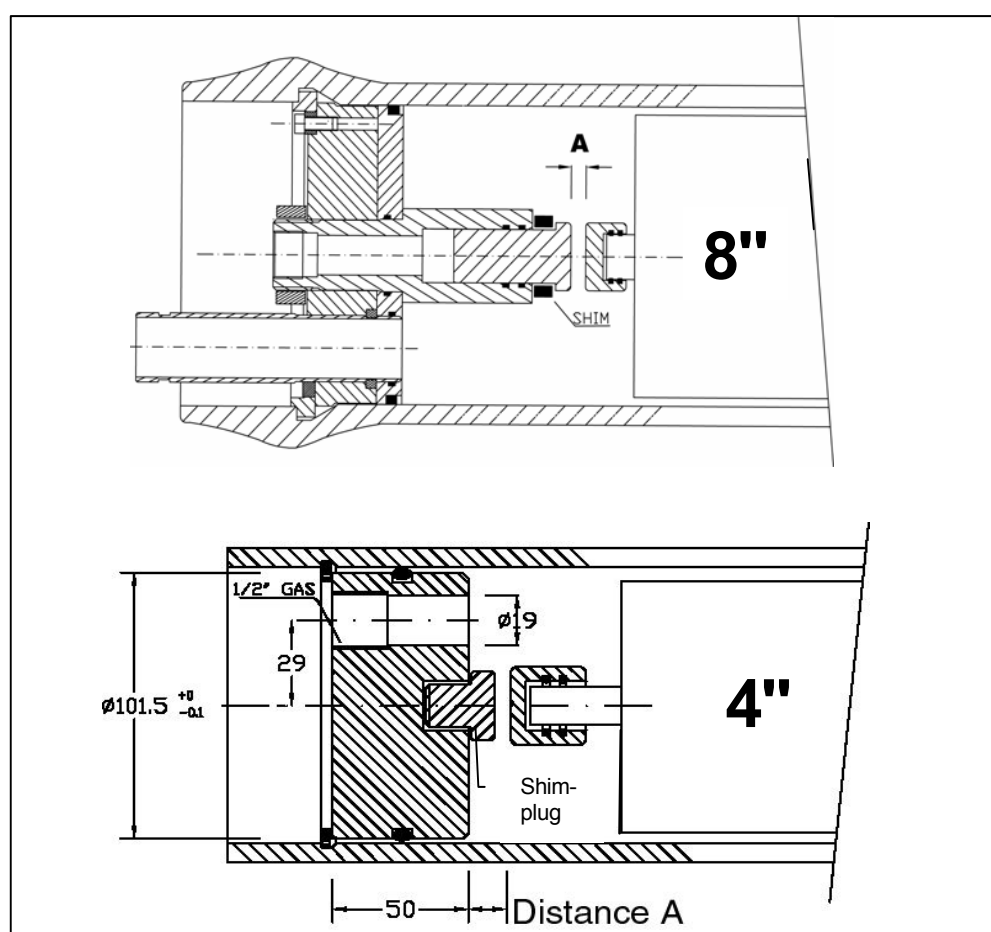

Fig. 620.6: Distance A between end cap and shim plug
9) Check distance „A“ between product tube cap and plug installed in permeate adaptor of feed side end plate. If all elements are correctly inserted, the distance „A“ must be < 5 mm, (see Fig. 620.6). This procedure is only required if a tube cap or a plug is used.
After installing all membranes (see Fig. 620.1 – 620.4), use shim rings provided by the pressure vessel manufacturer to make sure that the distance „A“ (Fig. 620.6) is < 5mm (0.2 inch). If distance „A“ is too large, element stack will move too much, causing damage of O rings (inter-connectors and/or permeate adapter) and disconnection of permeate adapter. In both cases brine/feed water will leak into permeate and spoil product quality. The risk of mechanical disconnection of permeate adapters is especially high if the permeate header is connected to feed side of pressure vessel. Therefore TORAY highly recommends to install permeate system on the brine side of pressure vessels only.